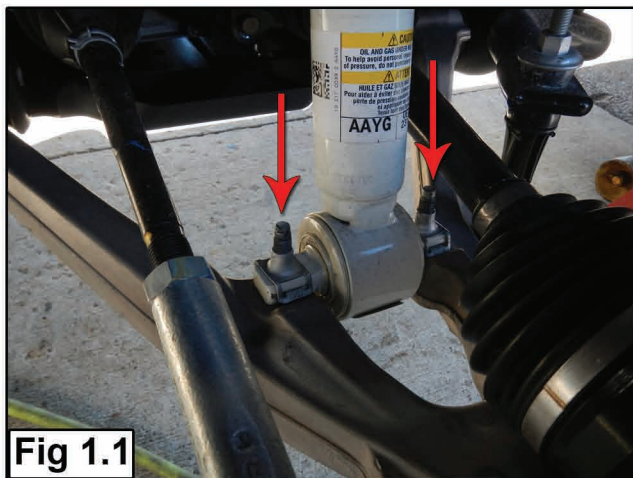

Fig 1.1
5. Remove 2 lower strut mounting bolts with a 15mm socket. **(Fig 1.1)**